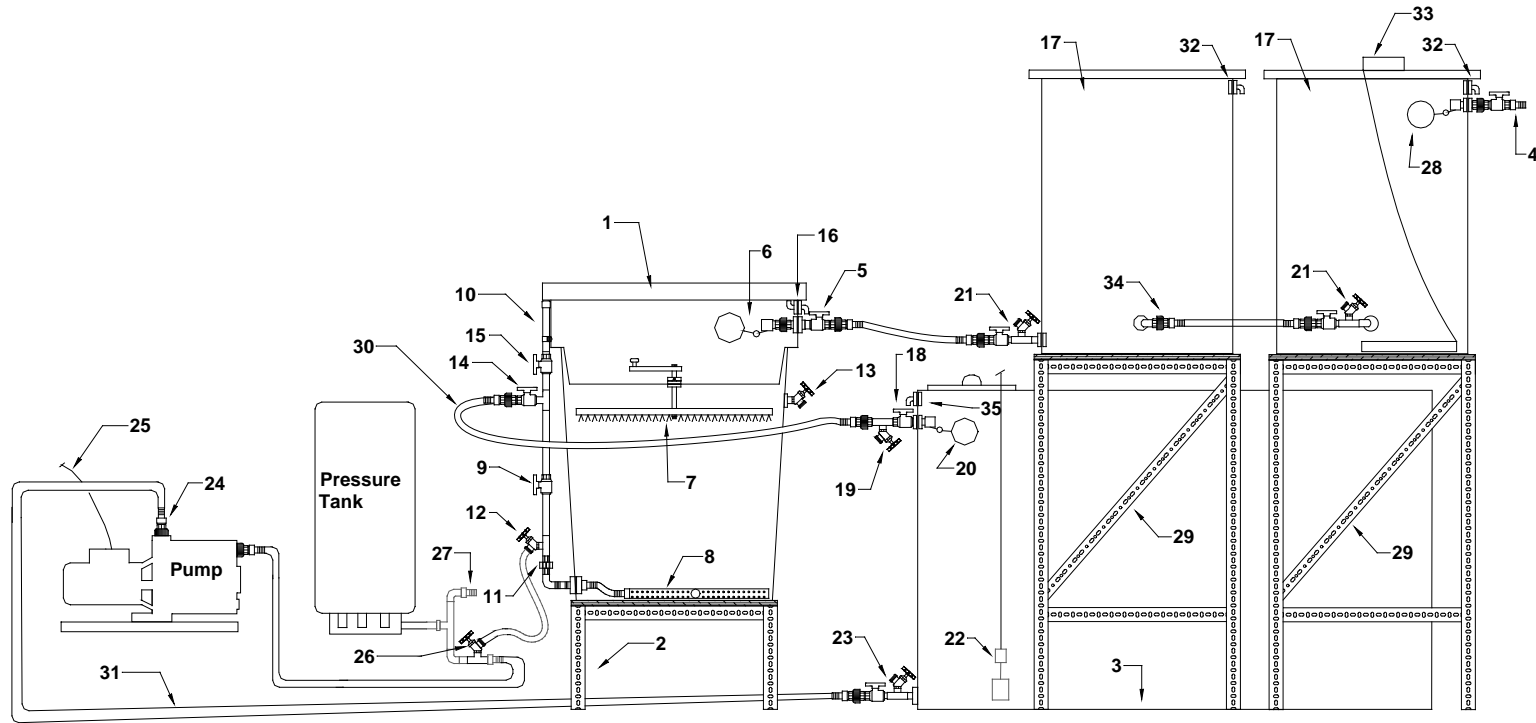

Figure 1 - Automated System Layout - Aeration System and Additional Head Tank
- Refer to Figure 1 to find the locations for all system components.
Step 1. Position the additional head tank stand so it straddles the storage tank as shown in figure 1. Place the second head tank on the stand.
Step 2. Install the head tank inlet on the first tank and the head tank outlet on the second tank as shown in figure 1.